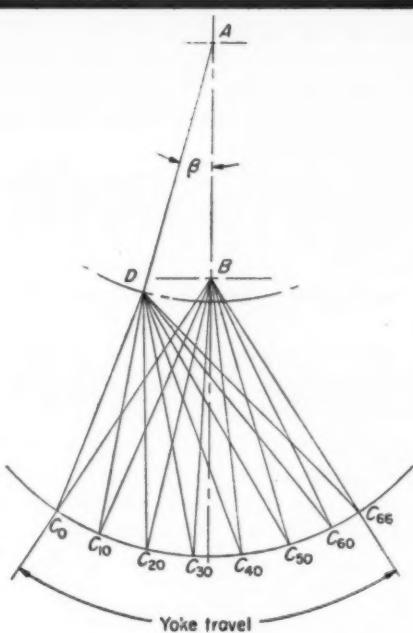

Fig. 2 — Graphical construction for obtaining spring data required for calculation of driving torque
Fig. 2—Multiple-link mechanism, *a*, similar to the Walschaert valve gear for steam locomotives. Acceleration of links 3, and 5 can be found with velocity polygon *b* and the acceleration polygon *c*. In *c*, layout steps are numbered in sequence
The next step is to determine in what position of the handle the spring pressure has a component of 1.03 lb normal to the yoke. This is most easily determined by the construction shown in *Fig. 2*. As a first approximation, the angle  $\beta$  is assumed equal to 10 degrees. For this handle position the length of the spring  $= C_0D = 0.250$ -inch by measurement or the spring deflection  $= 0.281$ -inch. Therefore, the spring force along the spring axis  $= 0.281 (18.7) = 5.25$  lb. Also by measurement angle  $DC_0B = 6$  degrees. Therefore, the component of the spring force tending to rotate the yoke  $= 5.25 \sin 6$  degrees  $= 0.55$  lb, which is not enough to overcome the contact friction.
*Fig. 2* denote angular position from the starting point in degrees. Corresponding spring lengths  $DC_{10}$ ,  $DC_{20}$ , etc., are drawn and for each position, the angles  $DC_{10}B$ ,  $DC_{20}B$ , etc., are measured. By standard methods, the moment of inertia  $I$  of the rotating assembly is found to be  $6.2 \times 10^{-7}$  ft-lb2.